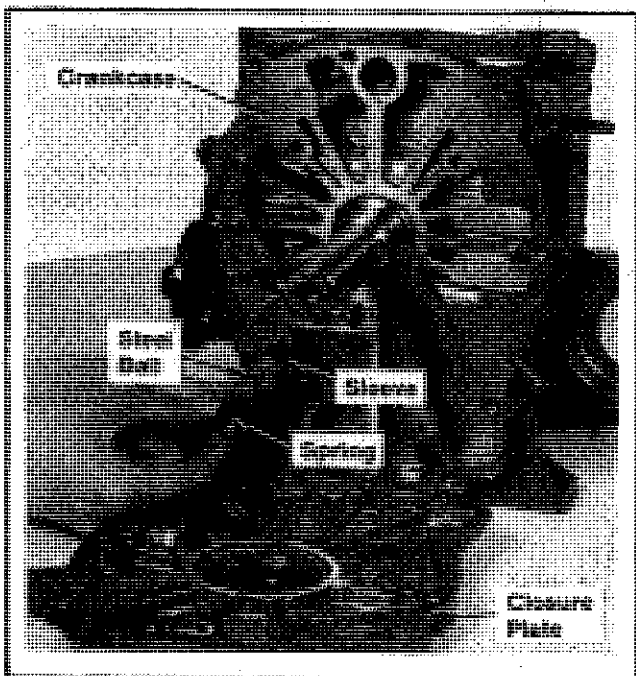

Figure 11-26. Installing Oil Pressure Relief Valve.
1. Install the oil pressure relief valve sleeve, steel ball, and spring. Refer to Figure 11-26.